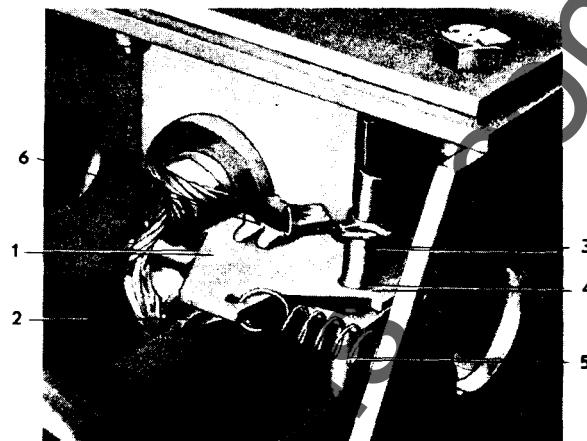

Fig. A19 Closing Spring Gag Interlock
With the closing spring discharged, remove the closing spring gag interlock return spring, (5) Fig. A19, and the retaining ring that holds the interlock lever to the closing spring bracket. Remove the closing spring gag interlock by lifting it from the pin in the closing spring bracket.